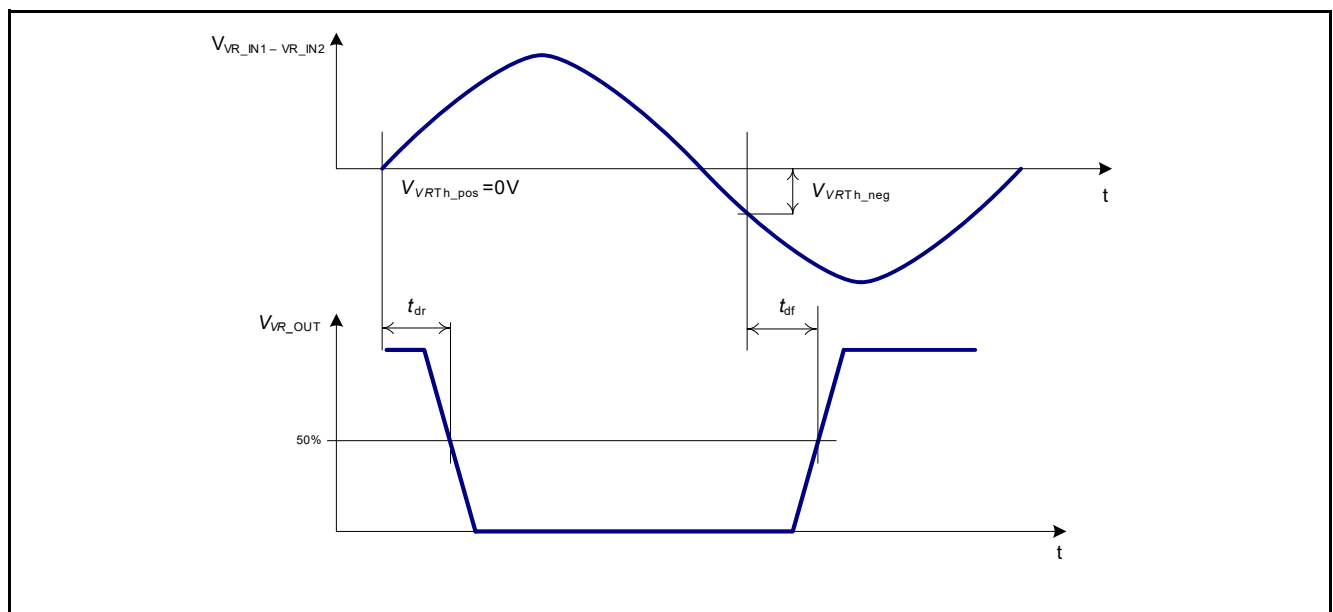

Figure 12 Timing characteristics of the VR sensor interface
The variable reluctance (VR) sensor interface converts an output signal of a VR sensor into a logic level signal suited for μC 5 V input ports. The voltage difference between the two input pins, **VR_IN1** and **VR_IN2**, which are connected to the two output pins of the VR sensor, is detected and the output pin **VR_OUT** is switched depending on the sign of the voltage difference (see Figure 12). The amplitude of the VR sensor signal is limited by an internal clamping circuit to avoid damage of the device due to over voltage caused by the VR sensor signal.